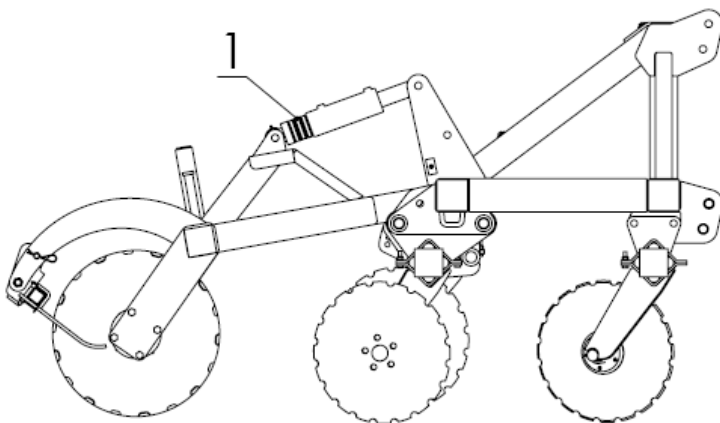

Figure 2. Depth adjustment
To adjust the cultivation depth, change the height of the roller in relation to the machine's frame. The adjustment can be made by changing the thickness and number of the depth cylinder control blocks (Figure 2, item 1.). Removing blocks increases cultivation depth while adding them reduces the depth. The cultivation depth must always be measured from the cultivated soil behind the machine. Adjust the cultivation depth in accordance with the conditions of each field section.